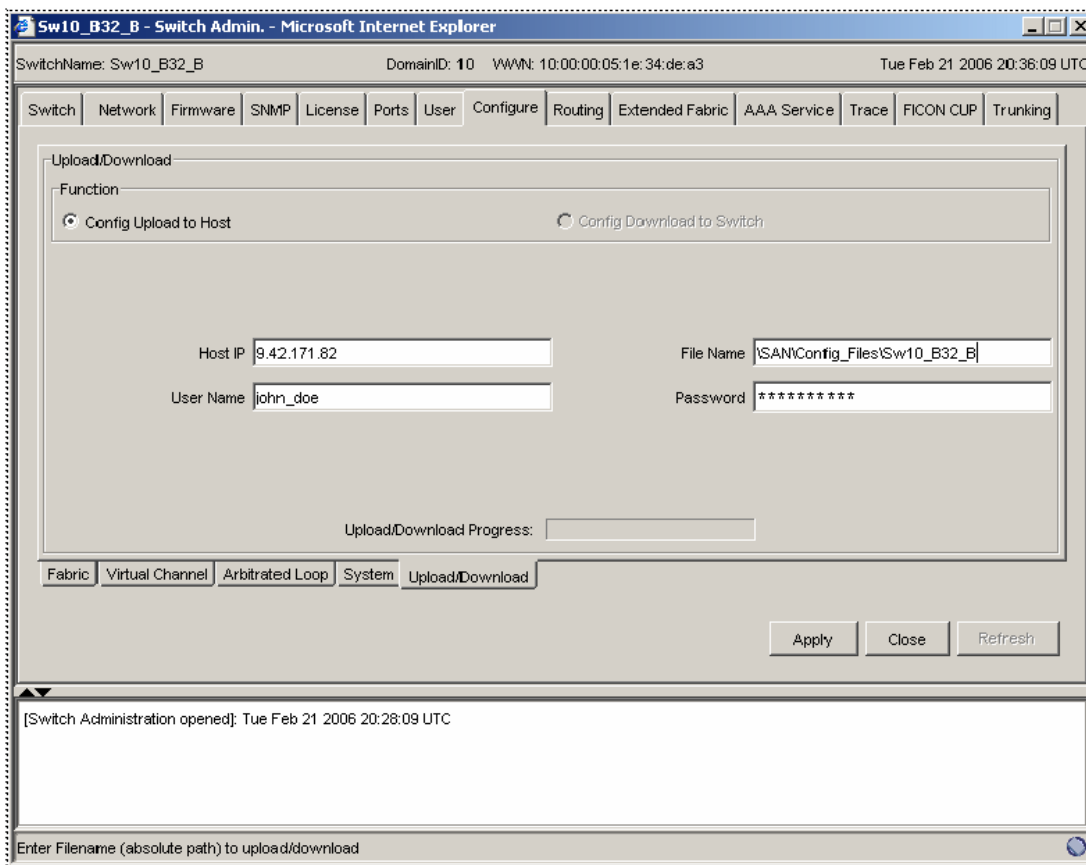

Figure 5-20 Perform Config Upload of switch information
- vi. Keep softcopy files of licenses and other critical switch information by using the configUpload/Download function found in the Configure tab (Figure 5-20). The configUpload option will save (upload) the switch information and settings to a config file on a server. The uconfigDownload option will restore (download) a previously save config file onto the switch module. Note that Figure 5-20 shows configDownload selected. To perform a configUpload, select the configUpload option.